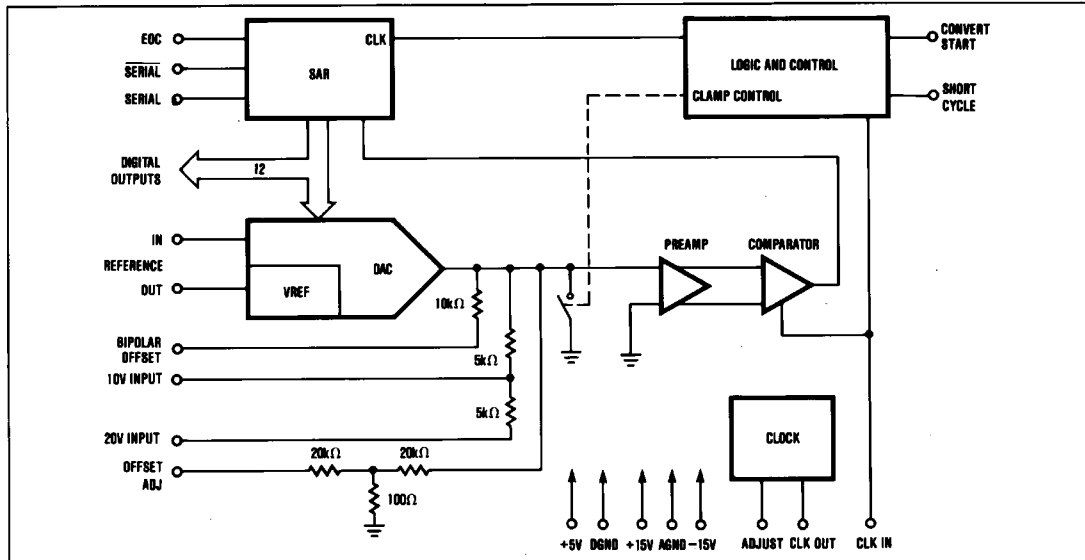

Figure 1. Maxim MX578 Block Diagram.
The MX578 is a 12-bit successive approximation A/D converter in which the analog input is compared to the output of a high speed D/A converter (Figure 1). The D/A is binarily stepped until its output matches the analog input. The digital code from the successive approximation register (SAR) appears on the outputs as the binary value of the input voltage. The conversion process consists of twelve successive tests, starting with the D/A set to half Full Scale (FS). The comparator determines whether the D/A output is higher or lower than the analog input and either sets or resets Bit 1 (MSB). On the next test, the D/A is incremented up or down $\frac{1}{4}$ FS, based on the last decision, and is again compared to the input. The result is stored as BIT 2. Each comparator decision is clocked into the SAR for the remaining bits until all twelve have been tested.
The analog input should be driven by a wide bandwidth, low output impedance op amp or a fast sample-and-hold. Although V_{IN} may not change during the conversion, the load current of the A/D abruptly changes with each clock cycle due to successive DAC codes (Figure 1). The amplifier must recover to the original value in time for the rest of the circuit to settle before the comparator can make a decision. An op amp which can settle to 0.01% in 50 to 100ns for a 0.5mA change in load current with no thermal tail and low offset voltage drift is recommended.